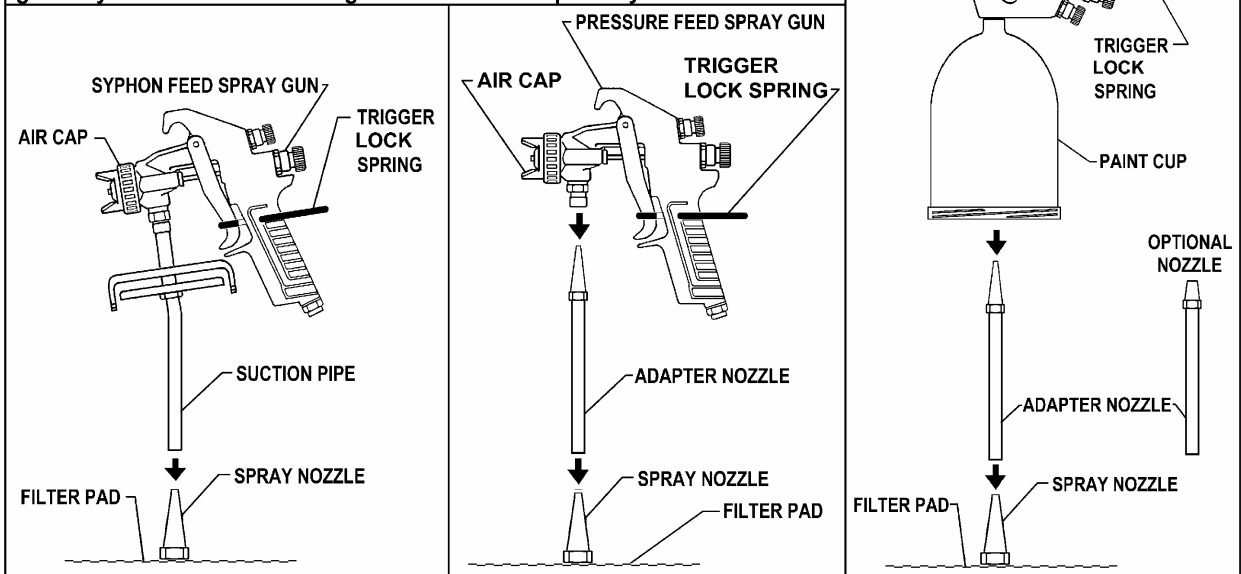

Figure 7B
3. Open the Lid of the Cleaning Tank and install an applicable Adapter Nozzle (Part No. 110-430 or 110-430SA) onto the Taper Nozzle as shown in Figure 7B.
4. Fit the Paint Inlet of the Spray Gun onto the Adapter Nozzle. See Figure 7B.
2. Install the Spray Gun on to the appropriate cleaning nozzle with the gun facing the corner jets as shown in Figure 7B.